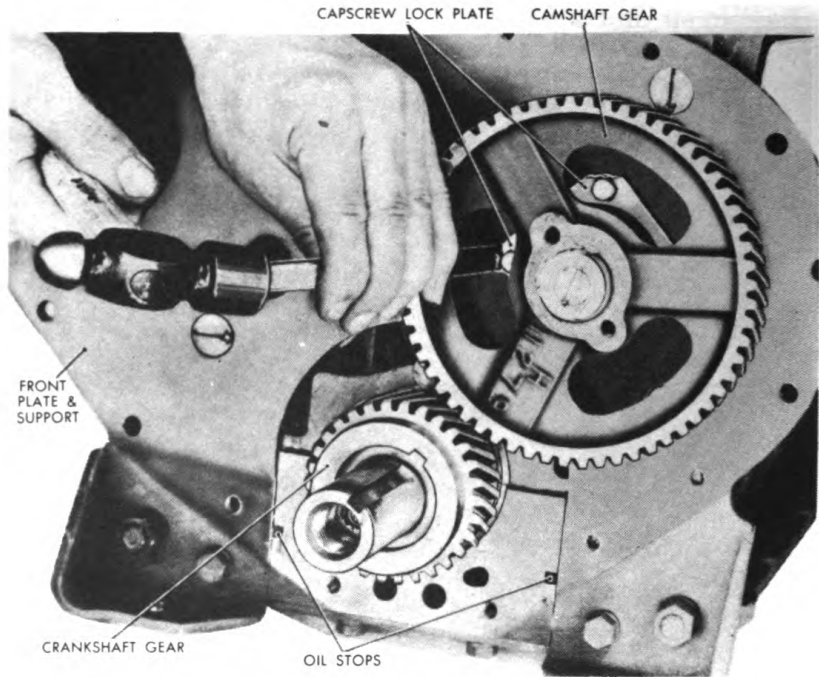

Figure 126. Straightening Thrust Plate Capscrew Lock.
21. Straighten out the lock that holds the three camshaft thrust plate capscrews (see Figure 126), remove the capscrews,